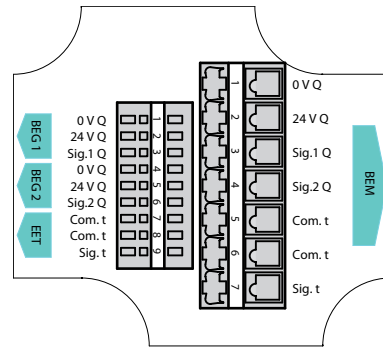

Fig. 5 Connection circuit diagram junction box
2. Carry out the cabling of the pick up and of the temperature sensor through the cable glands **10** in the junction box. Observe the connection circuit diagram, see Fig. 5, page 35.